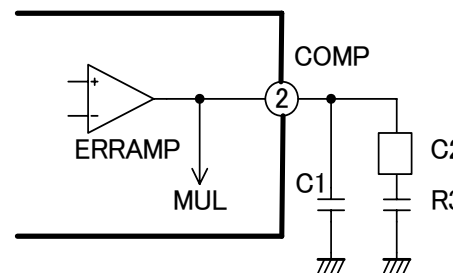

Fig.6 COMP pin circuit
**(2) No.2 pin (COMP pin)**
- Connect C and R between COMP and GND as shown in Fig. 6.